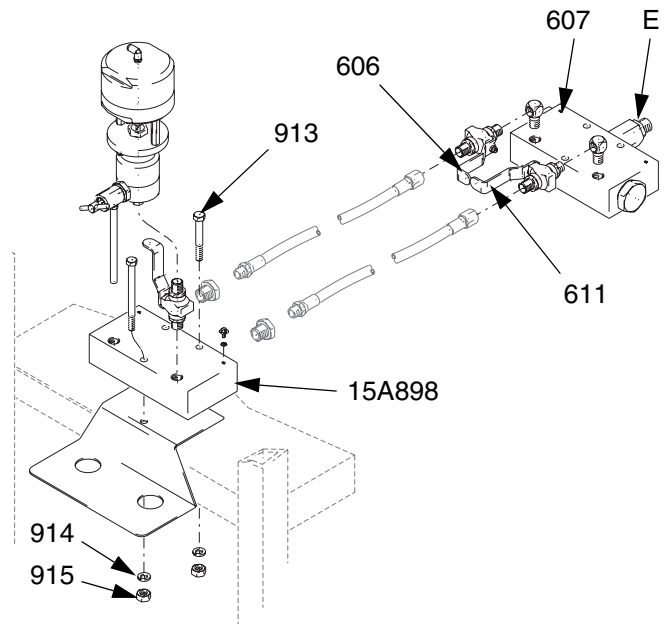

FIG. 8
2. Install metering valves (601) and shutoff valves (606, 611) onto fluid metering manifold 15A898. FIG. 8.